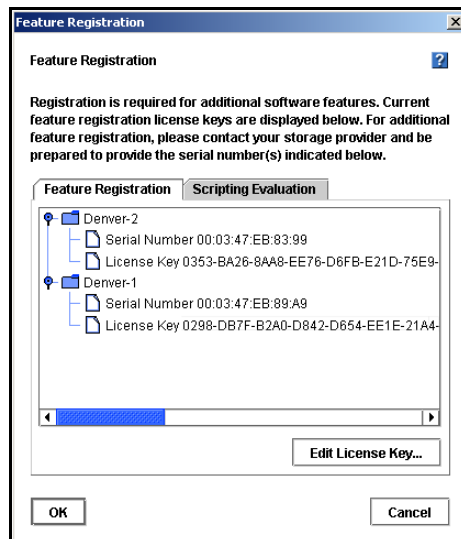

Figure 200. Viewing License Keys
6. Click OK. The license key information is updated in the Feature Registration window, as shown in Figure 200.